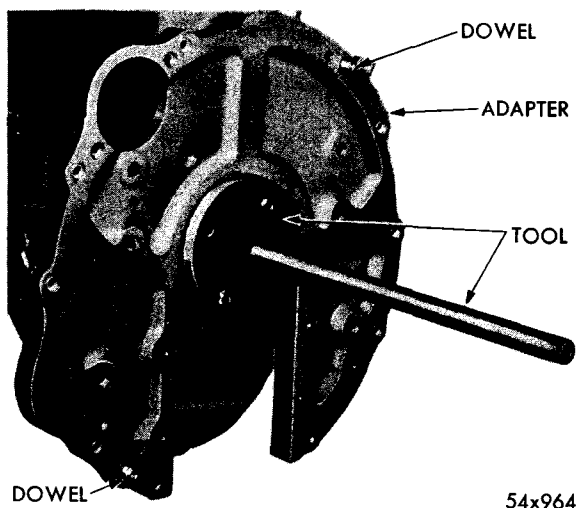
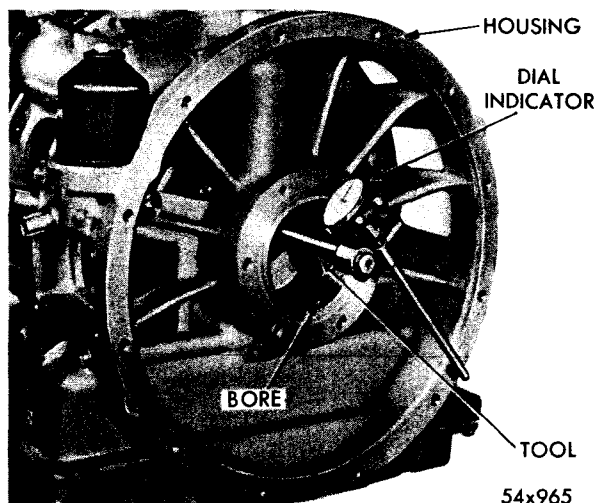

Fig. 16—Fixture Tool C-870 Installed to Crankshaft Flange
Fig. 17—Checking Runout of Torque Converter Housing Bore with Tool C-870 and Dial Indicator Tool C-430
- (4) Using any standard flywheel bolts, install fixture Tool C-870 to the crankshaft flange and tighten securely, as shown in Figure 16.
- (5) Install two dowel pins in the adapter plate from the front end so that they will protrude beyond the machined face of the adapter plate.
- (6) Using a chainfall or lift, install the Torque Converter Housing to the adapter plate with the cap screws and tighten securely.
- (7) Install the dial indicator Tool C-435 or Tool C-430 onto the shaft of the fixture Tool C-870, as shown in Figure 17.
- (8) Adjust the plunger of the indicator against the inside diameter of the Housing bore. Set the dial indicator to zero (0).
- (9) Rotate the crankshaft and check the inside diameter of the Housing bore, as shown in Figure 17. It should not vary more than .003 to .005 inch **RUNOUT** to one complete revolution of the crankshaft.
- (10) If alignment is necessary, install the correct amount of shims between the Converter Housing and the adapter plate until it comes within the specified tolerance.
- (11) After obtaining the correct alignment, stamp on the Housing and on the side of the adapter plate, at each screw position, the required number of shims (in thousandths) needed to align the Housing.
- (12) Check the **RUNOUT** of the Torque Converter Housing rear face as outlined in the next paragraph.